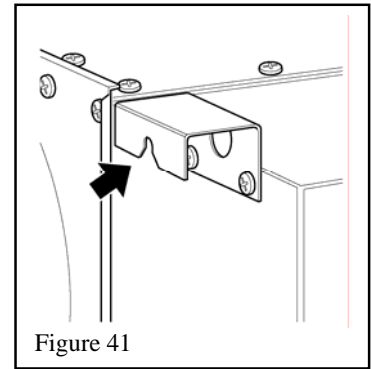

Figure 41
2. Fit the two wall spacers (Supplied with #530 Engine unit) using the screws just removed. See figure 41.